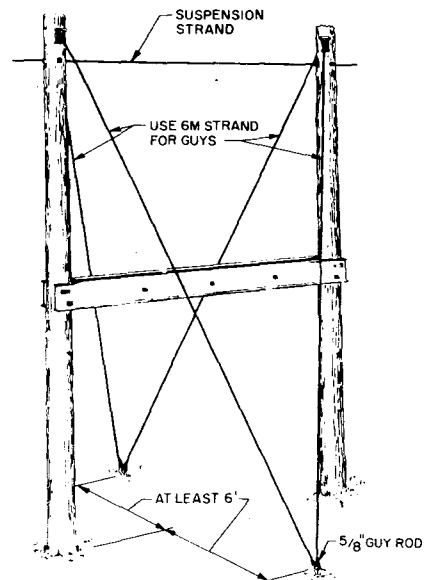

Fig. 13—Side Guyed H Fixture
6.02 Pole lines supporting toll aerial cable should be side storm guyed at H fixtures and single pole loading points in straight sections of line if the line crosses over swampy ground. A side-guyed H fixture is shown in Fig. 13.